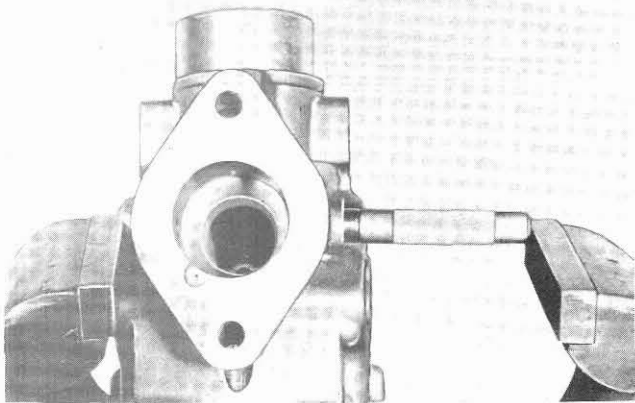

Figure 2-7. Pressing New Needle-Bearing Into Carburetor Body
c. Press new throttle-shaft needle bearings into place with tool, Part No. M-503. (See figure 2-7.)